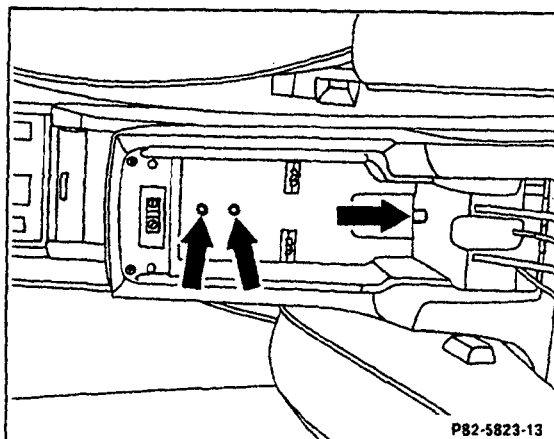

Figure 9
1. Open armrest and remove plug from rear of compartment. Carefully drill out the two forward recesses using care not to drill into the threaded inserts (arrows, Figure 9).